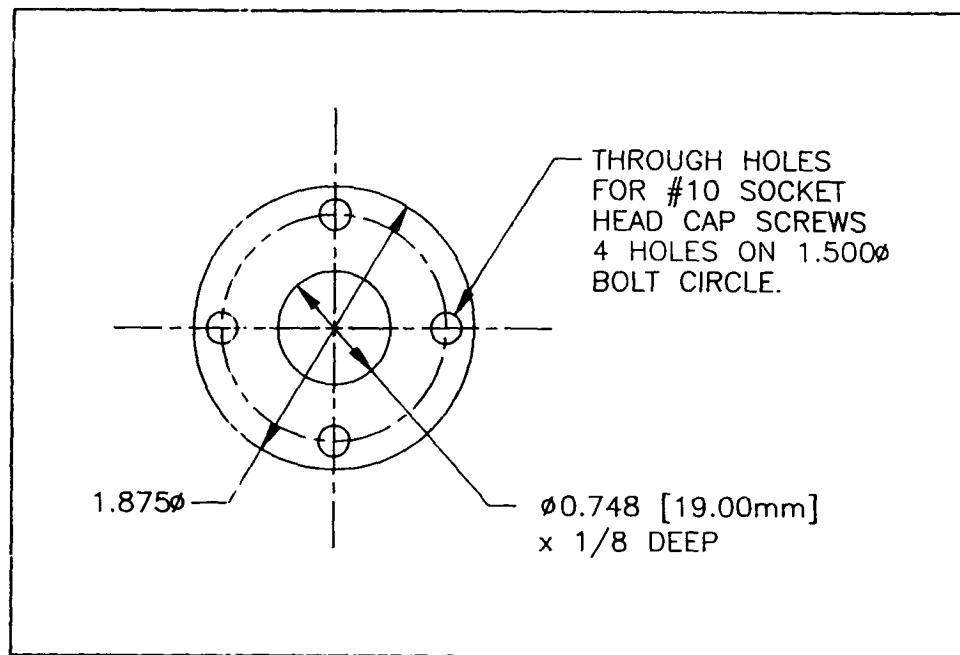

FIGURE 3-2 Robot Gripper Mounting Dimensions
- 1) Fasten gripper to robot flange using 4, #10 socket head cap screws as Figure 3-2.